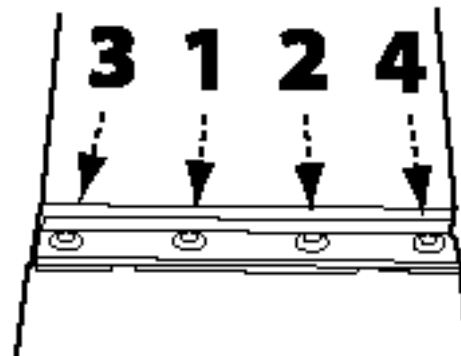

FIGURE 20
7. Install the new or re-sharpened knife and the clamp bar in the cutterhead. Slightly tighten each of the clamp screws, making sure to follow the sequence shown in Figure 20.